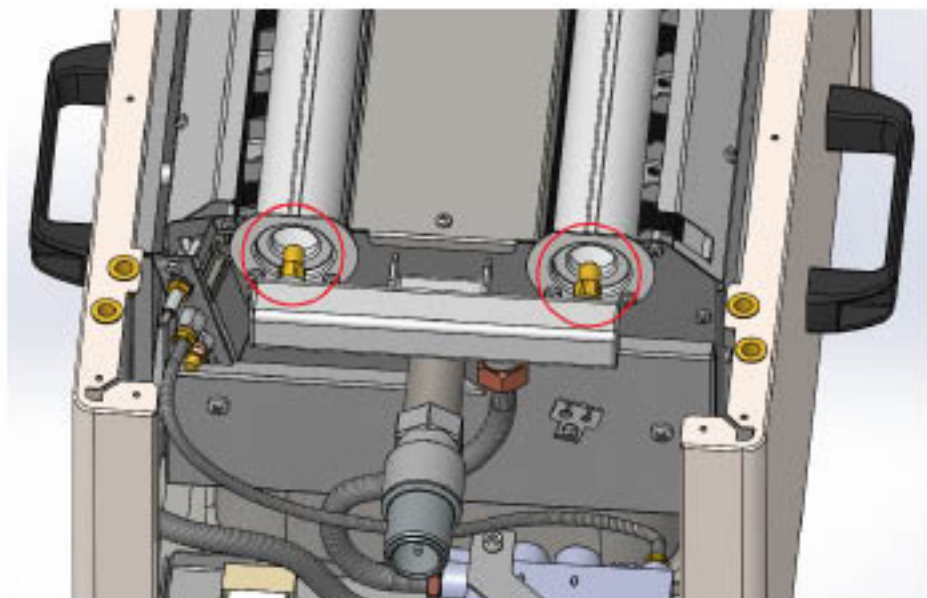

Fig. 1
- 2) With a size 12 wrench, dismantle the nozzles of the main burners and replace them with nozzles according to the table (Fig. 1)